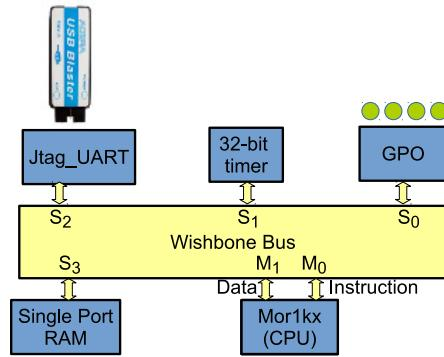

Figure 5.1: The schematic of desired SoC in this tutorial.
Schematic Figure 5.1 illustrates the desired hardware architecture in this tutorial. This architecture consists of:
7. A Clock source (not shown in Figure 5.1).
2. In parameter setting set M (master interfaces number) as 2 and S (slave interfaces number) as 4. These values are obtained from Figure 5.1. You can changed them later if you want to add/remove any IPs.